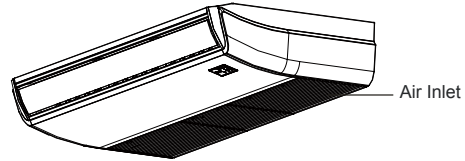

Fig. 6-1
- Open the air intake with a screwdriver or something similar. (Refer to Fig.6-1)